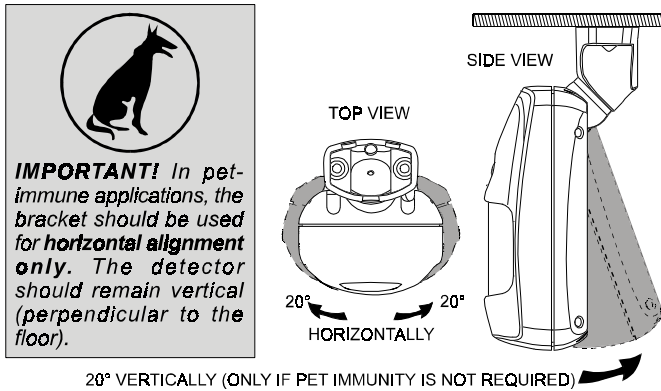

Figure 10. Tilt/Swivel Limits
J. Swivel the detector horizontally to face the desired direction, but **do not tilt it** if this is a pet immune application. However, if pets are not present it is advisable to tilt the detector as much as 20° down. Figure 10 shows the tilt/swivel possibilities.